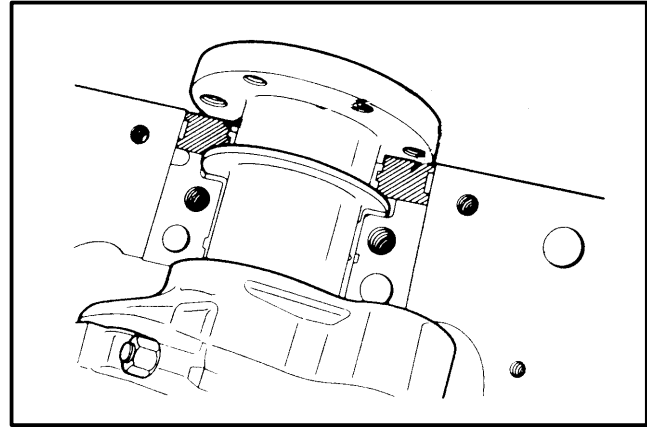

FIGURE 40. APPLY SEALANT TO ENDS OF THE OIL SEAL
10. Remove any engine oil from the ends of the oil seal, both upper and lower halves. Apply a thin coat of sealant **ONLY** to the ends of the oil seal. Do not permit any sealant on the surfaces where the main bearing cap joins the engine block. See FIGURE 40.
1. If the engine has a two-piece oil seal, install a new oil seal for the crankshaft. Apply engine oil to the oil seal during installation. Do not permit any oil on the ends of the oil seal. See FIGURE 40. Install the oil seal so that the lip is toward the fan end of the engine. See “Oil Seal For The Rear Main Bearing, Replacement (Engines That Have A Two-Piece Oil Seal)” for additional information about the rear oil seal.